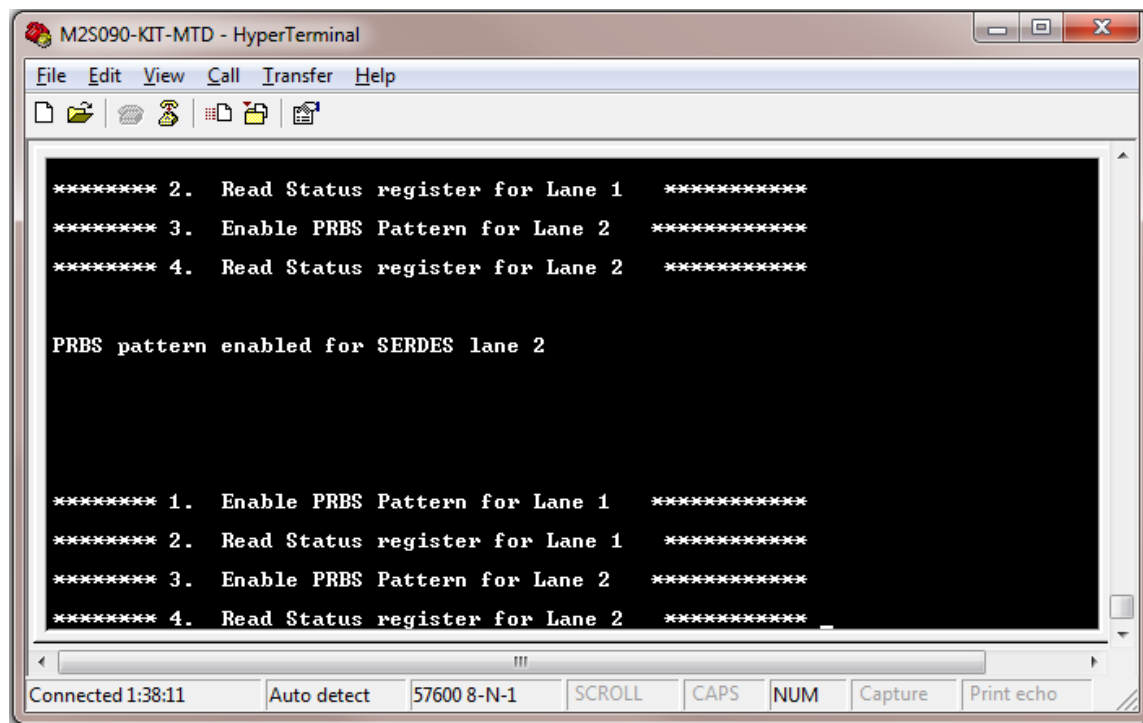

Figure 48 SERDES Lane2 Loopback Test
19. Press **3** to enable PRBS pattern for Lane 2. Refer to Figure 48.